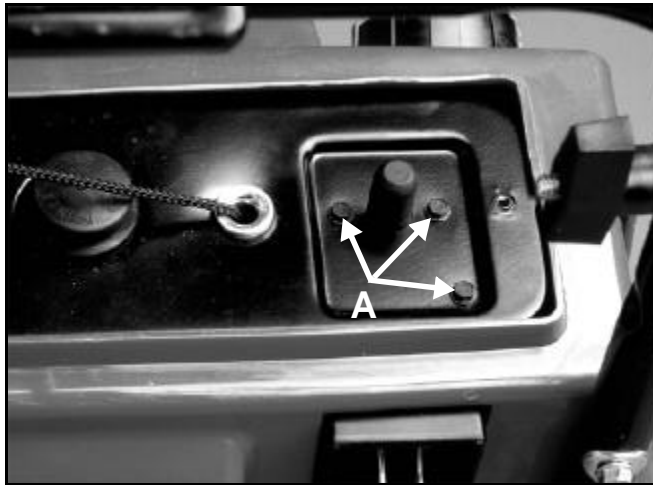

Figure 151
- Remove the three screws securing the starter switch assembly to the control panel (Figure 151).